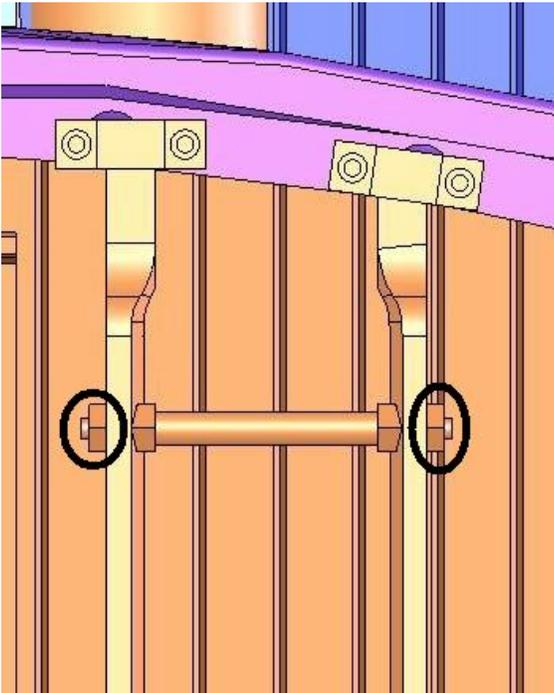

Figure 7
1. Using an X-Acto knife with a sharp blade, gently shave off the top NBW detail from the ladder on the outside of each side member shown in Figure 7.